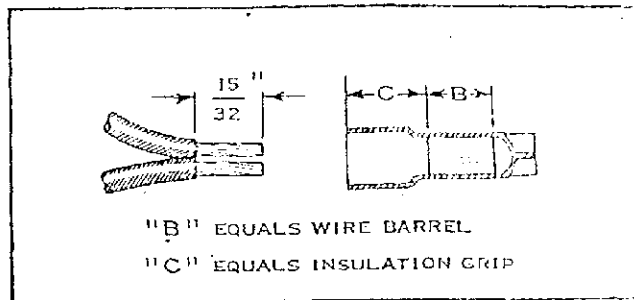

FIG. 2
- (a) Strip wire to dimensions shown in Figure 2.